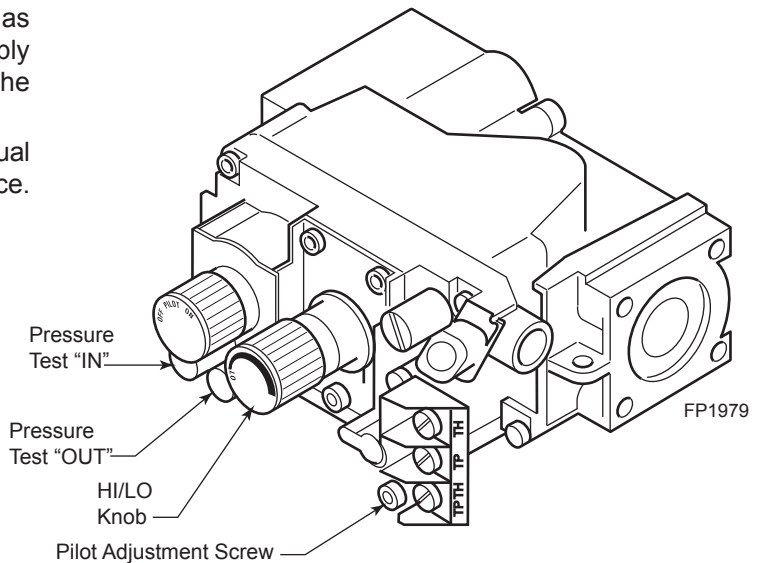

Figure 36 - Gas Pressure Check at Gas Valve
5. To check gas pressures at valve, turn captured screw counter clockwise 2 or 3 turns and then place tubing to pressure gauge over test point. Turn unit to high. *Figure 36.* After taking pressure reading, be sure and turn captured screw clockwise firmly to reseal. Do not over torque. Check test points for gas leaks.